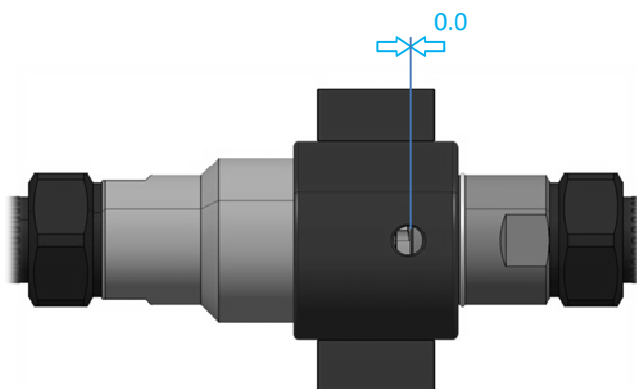

Fig. 3
- Verify, through the appropriate inspection hole on the fixing ring nut, that the male coupling and the female coupling have reached the mechanical stop position, which ensures the complete connection (fig. 3).